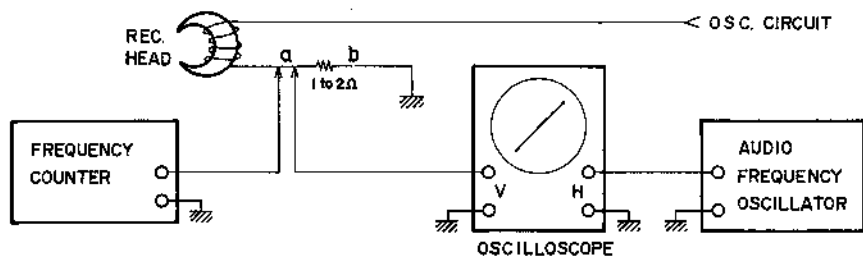

Fig. 19
- 1) Install a 1 to 2 Ω resistor in series with the recording head and connect these terminals (a)(b) to the vertical input of an oscilloscope. (See Fig. 19)
- 1) Connect a Frequency Counter to points (a) and (b) as shown in Fig. 19. Set recorder to the REC mode, and take a frequency counter reading at this time.